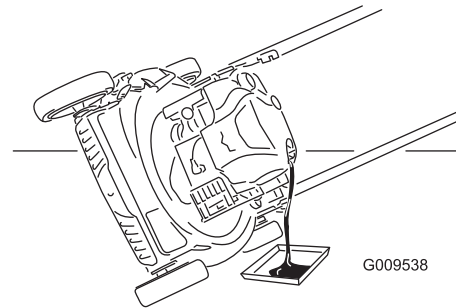

Figure 26
7. Tip the machine onto its side, with the oil-fill tube down, to drain the used oil through the oil-fill tube into the oil-drain pan (Figure 26).